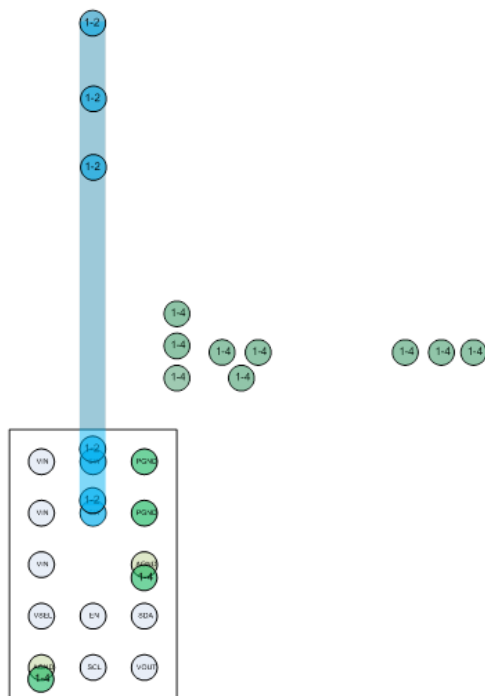
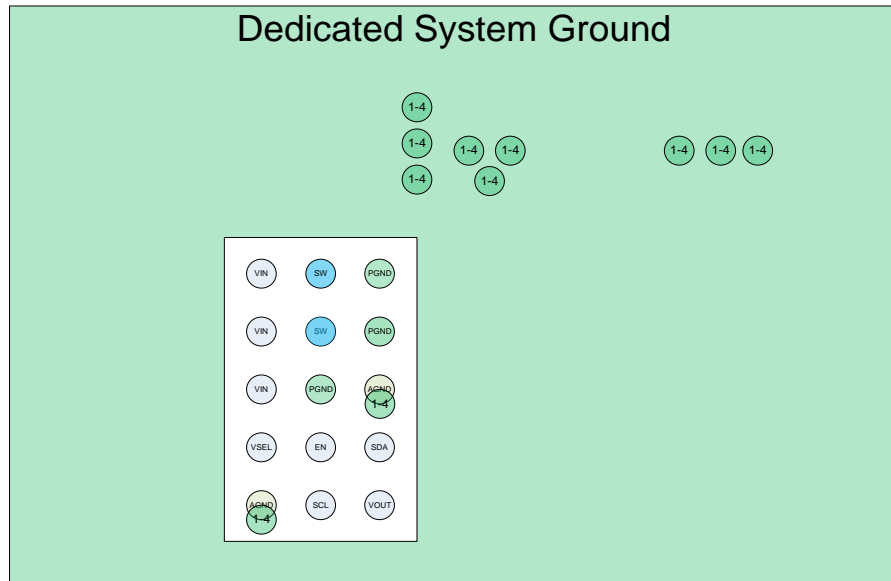

Figure 26. Layer 2
Figure 28. Layer 4
1. The input capacitor (C_{IN}) should be connected as close as possible to the VIN and GND pins. Connect to VIN and GND using only top metal. Do not route through vias (see Figure 26).
2. Place the inductor (L) as close as possible to the IC. Use short wide traces for the main current paths.
3. The output capacitor (C_{OUT}) should be as close as possible to the IC. Connection to GND should only be on top metal. Feedback signal connection to VOUT should be routed away from noisy components and traces (e.g. SW line) (see Figure 28).